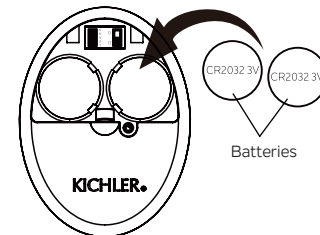

Fig. 30
Step 5. The buttons control the fan speed and light as follows: (Fig. 30)